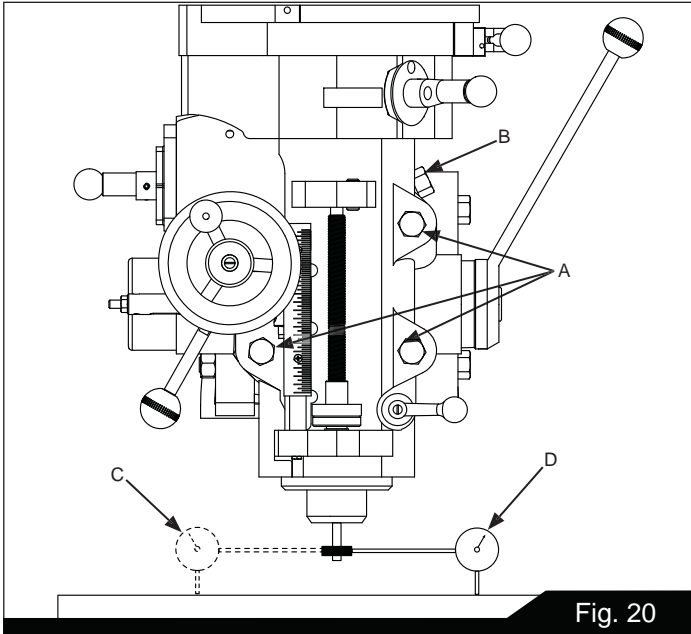

Fig. 20
5. Set up a dial indicator in a collet and secure using the draw bar (refer to Figure 20).
c. Set up a dial indicator in a collet and secure using the draw bar (refer to Figure 20).